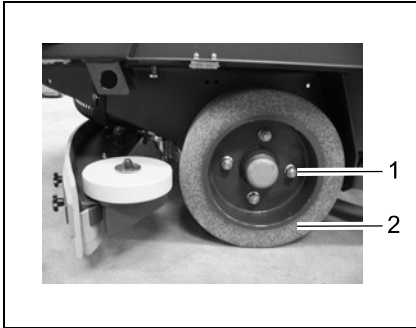

Fig. 40
The wheel nuts on the wheels (Fig. 40/1) must be subjected to their first check after 100 operating hours and subsequently every 200 hours.
The tightening torque for the wheel nuts (Fig. 40/1) is 140 Nm.
2. Remove the wheel nuts (Fig. 40/1).
3. Pull off the wheel (Fig. 40/2).
4. Fit a wheel (Fig. 40/2).
5. Screw on and tighten the wheel nuts (Fig. 40/1).